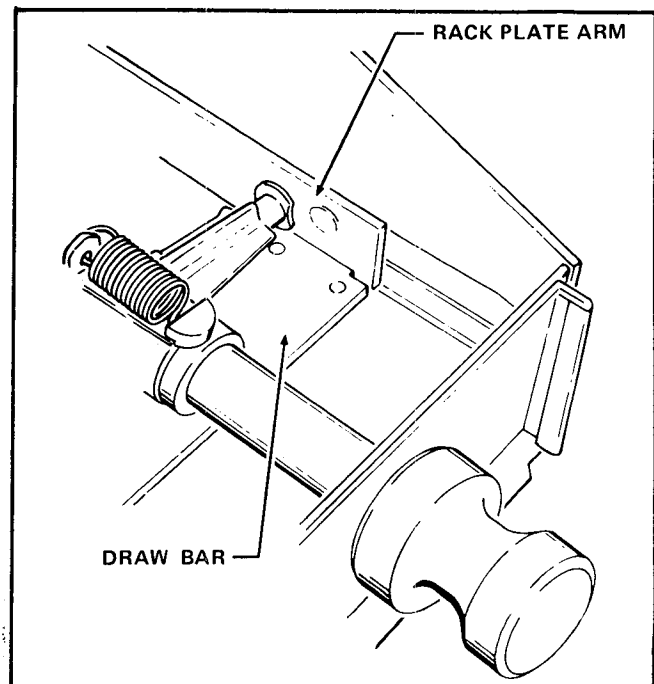

FIGURE 3-4
2. Check to be sure the right end of the Draw Bar is properly fit under the notched part of the Rack Plate Arm. Compare with the left end fitting of both parts. See Figure 3-4.